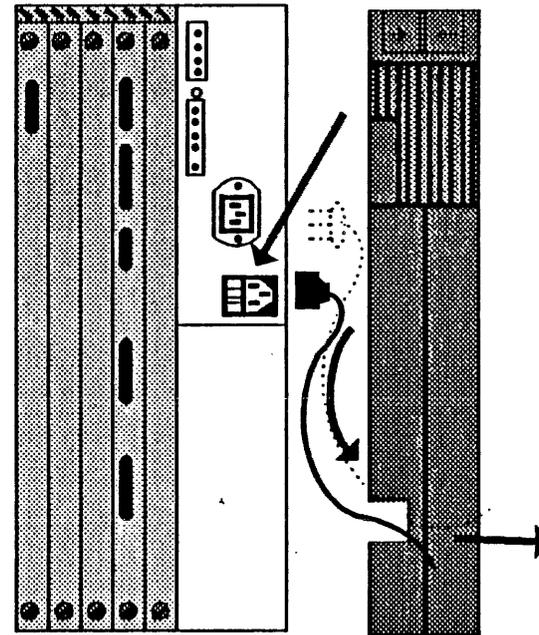

Figure 21. Connecting the Power Cord to the Processor Unit
**NOTE:** The illustration in Figure 21 does not accurately depict the location of the rear cover.